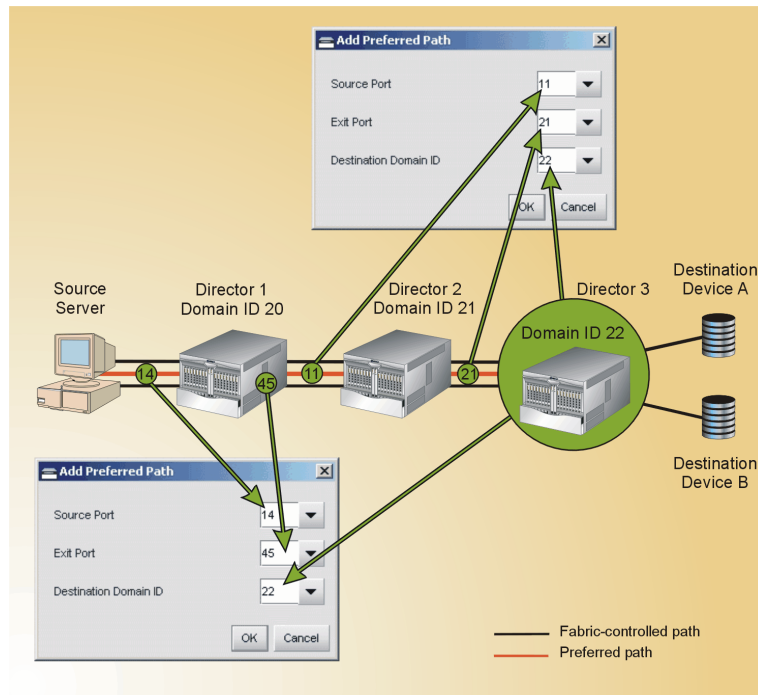

Figure 5-6 Preferred Path Configuration
Refer to the three-director preferred path illustrated in Figure 5-6.
2. Click *Add*. The *Add Preferred Path* dialog box displays (bottom of Figure 5-6).
2. Click *Add*. The *Add Preferred Path* dialog box displays (top of Figure 5-6).